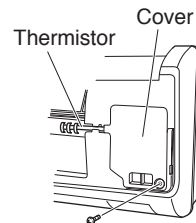

Fig. 17a
- (4) Close the cover and replace the screw. (Fig. 17a)